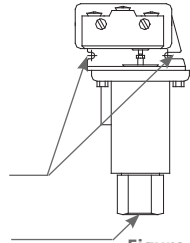

Figure 1
**ℹ FOR PRESSURE MODELS, MOUNT VIA PRESSURE CONNECTION. ALWAYS USE A WRENCH ON PRESSURE CONNECTION HEX (SEE FIGURE 1). DO NOT TIGHTEN BY TURNING THE ENCLOSURE AS THIS WILL DAMAGE THE SENSOR AND WEAKEN WELDED JOINTS.**
**Vertical Surface Mount:** Two holes for #10 screws are provided in the bracket plate (see Figure 1 for J54, J54AS & H54S. See Dimensions page for J54, J54A & H54).